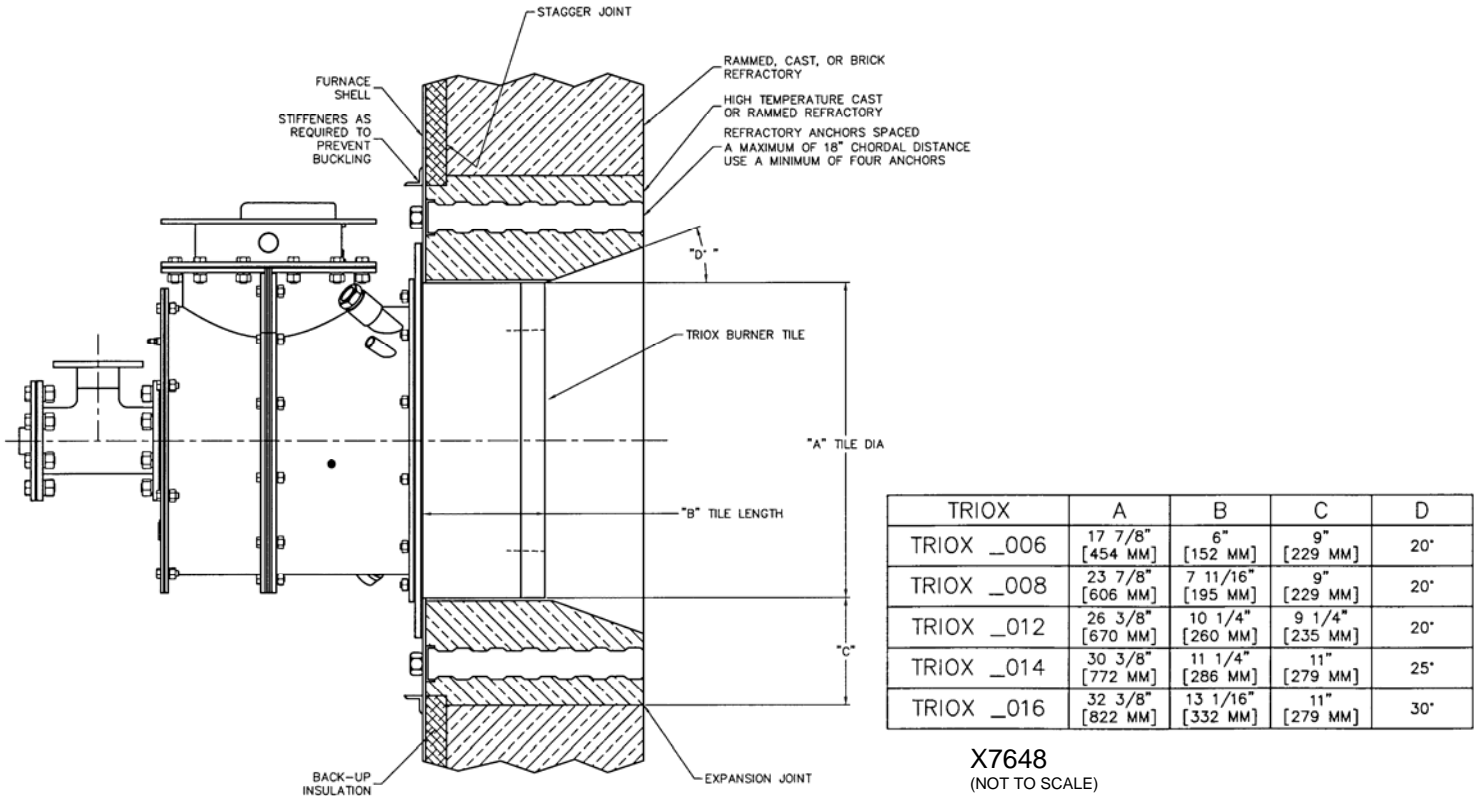

Figure 1. Burner Mounting and Refractory Installation
3. For installation in an existing refractory wall, refer to Figure 1. From inside the furnace, remove rammed, cast or brick refractory as required to allow for installation of the port block using cast or rammed refractory.
6. Install refractory anchors to the furnace shell to secure the refractory port block to the furnace shell. Refer to Figure 1 for spacing of anchors and provision for expansion joints, or follow the refractory manufacturer's recommendations. The refractory wall must exit no stress on the burner tile when the furnace is hot or cold.